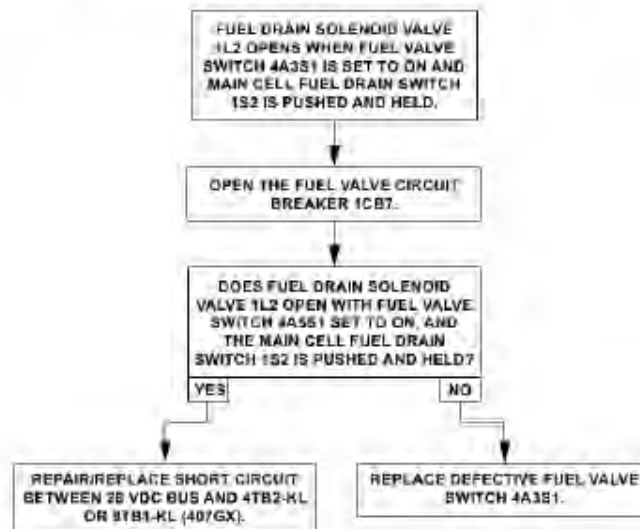

Figure 96-105: Fuel Shutoff Valve Electrical System, Fuel Cells Drain Valve Circuit – Trouble No. 3
- If the drain valve solenoid (1L2) opens, refer to Trouble No. 3 (Figure 96-105).